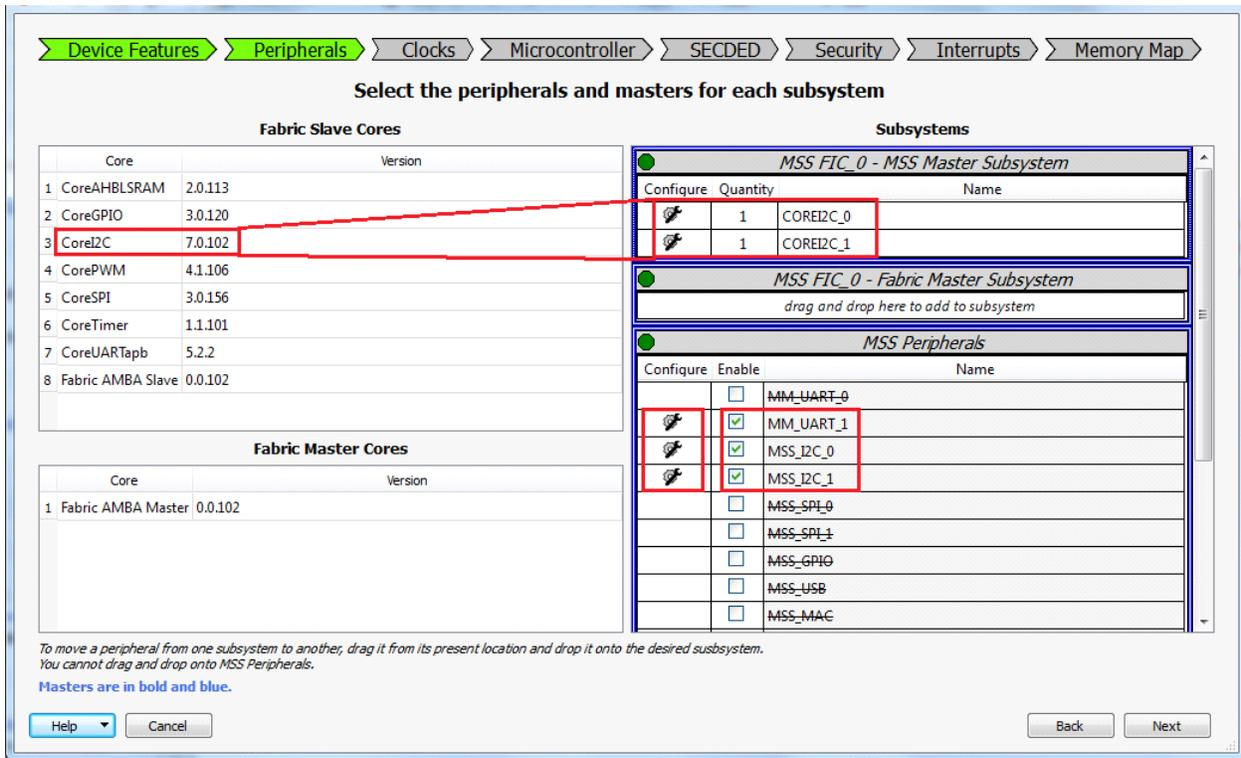

Figure 8 • System Builder - Peripherals Page
1. The **System Builder** window is displayed with **Device Features** page by default. Click **Next**, the **System Builder - Peripherals** page is displayed. Drag two instances of CoreI2C and drop on to the **MSS FIC_0 - MSS Master Subsystem**. **Figure 8** shows the **Peripherals** page.
3. The design uses MMUART and I²C MSS peripherals. Select **MM_UART_1**, **MSS_I2C_0**, **MSS_I2C_1** and uncheck all other peripherals (see Figure 8).